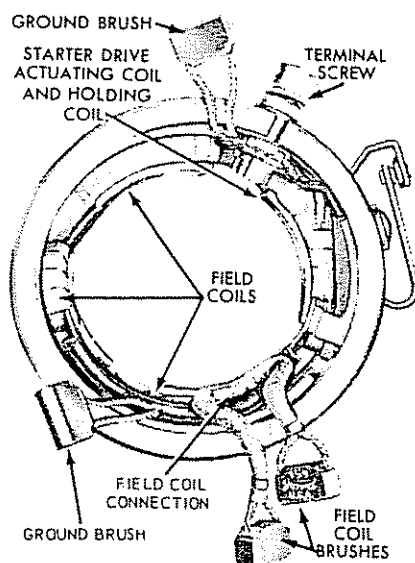

Fig. 18 — Coil Assembly
1. Install the starter terminal, insulator, washers, and retaining nut in the frame (Figure 18). Be sure to position the slot in the screw perpendicular to the frame end surface.
6. Position the new insulated field brushes lead on the field coil terminal. Install the clip provided with the brushes to hold the brush lead to the terminal. Solder the lead, clip, and terminal together, using rosin core solder (Figure 18). Use a 300-watt iron.
8. Position the ground brushes to the starter frame and install the retaining screws (Figure 18).
10. Position the new insulated field brushes lead on the field coil connection. Position and crimp the clip provided with the brushes to hold the brush lead to the connection. Solder the lead, clip, and connection together, using rosin core solder (Figure 18). Use a 300-watt iron.